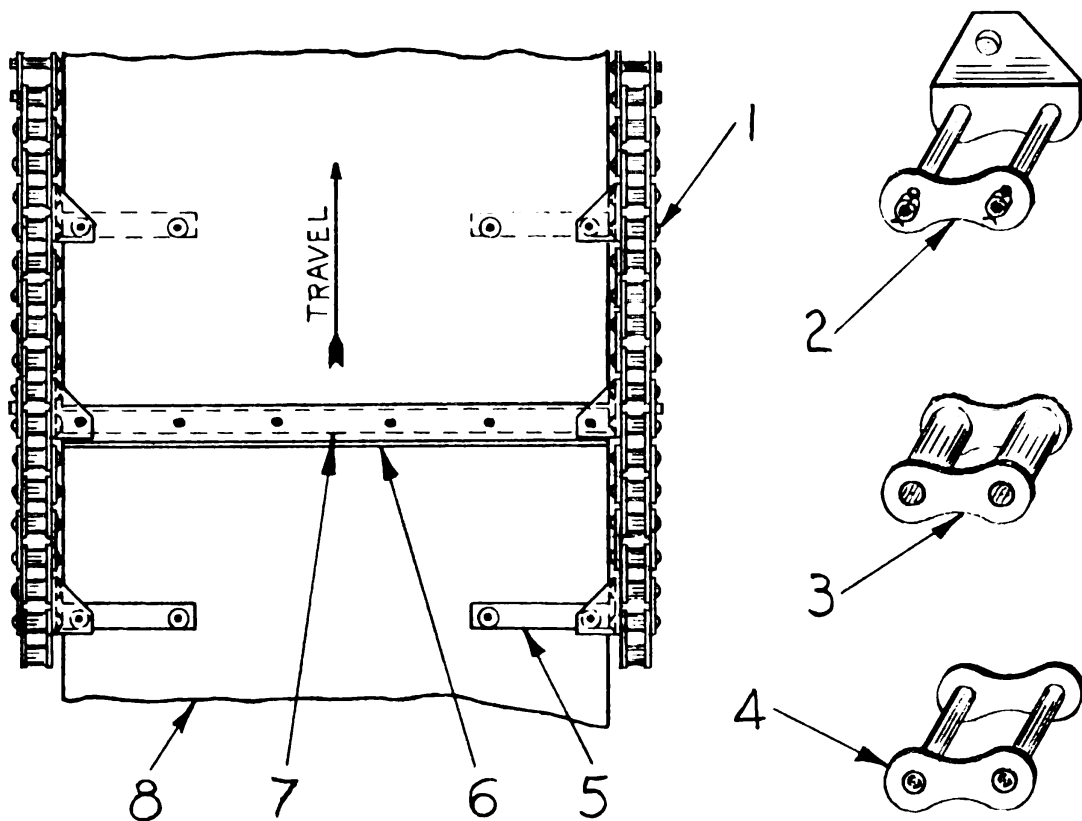

Figure 122. Showing conveyor belt parts.
Belt chains may be used two, and in some cases three times with a new belt. Examine the rollers, bushings and condition of the chain side bars. Particular attention should be given to the point where the chain pins (1), Figure 122 rivet to the side bars.